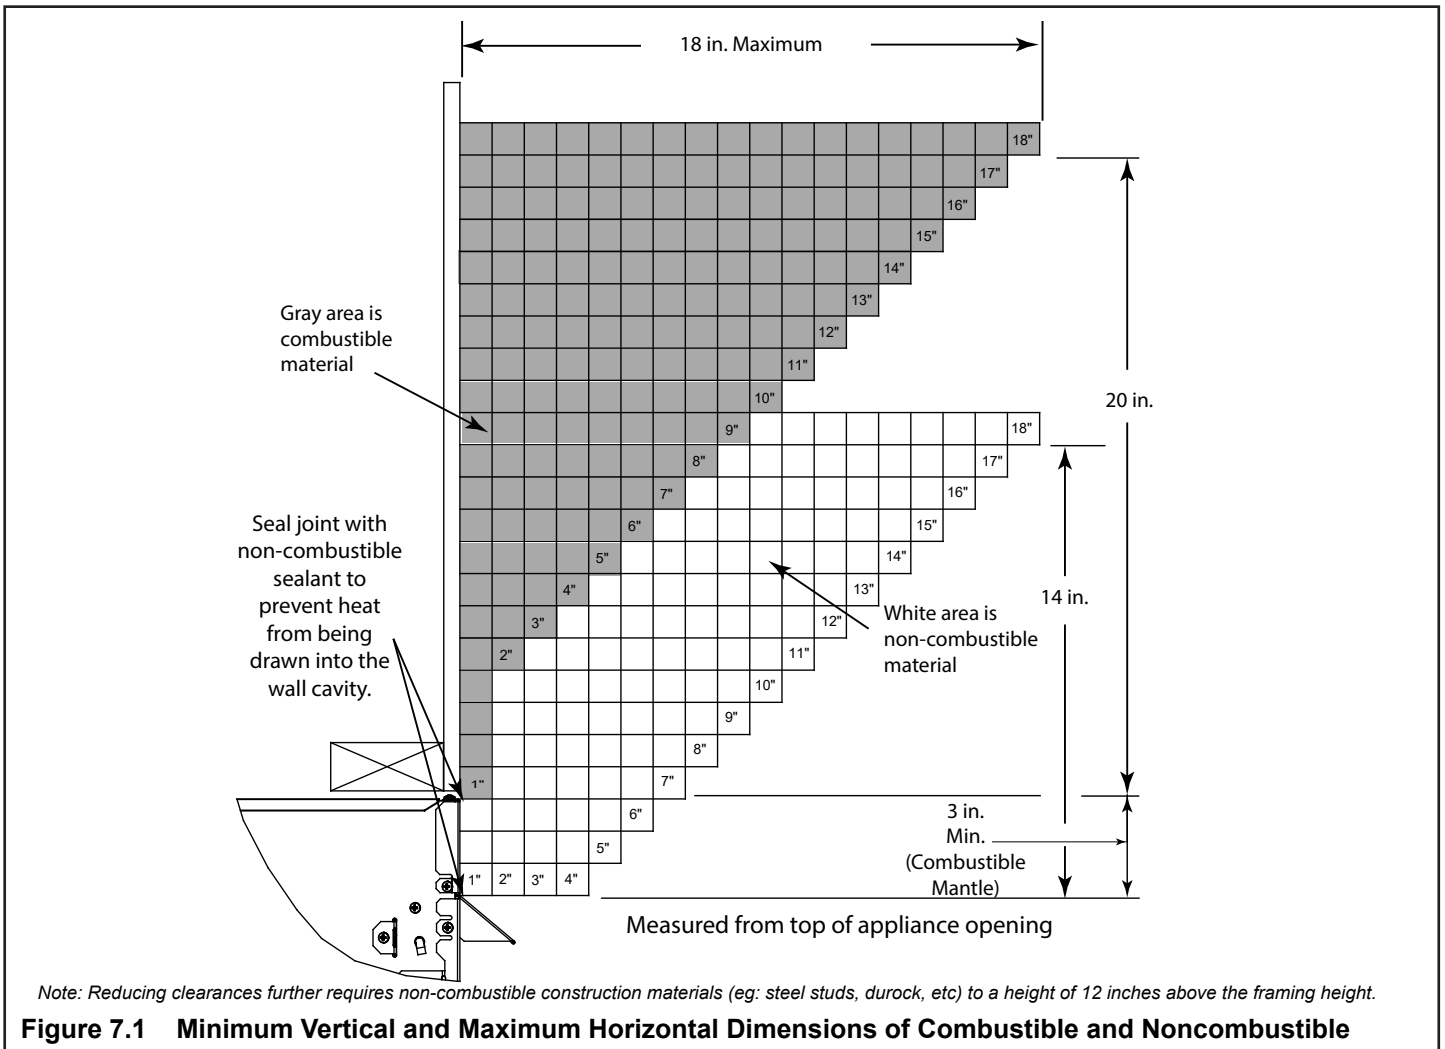

Figure 7.1 Minimum Vertical and Maximum Horizontal Dimensions of Combustible and Noncombustible
- See Figures 7.1 and 7.2 for combustible and non-combustible mantle and mantle leg clearance requirements.